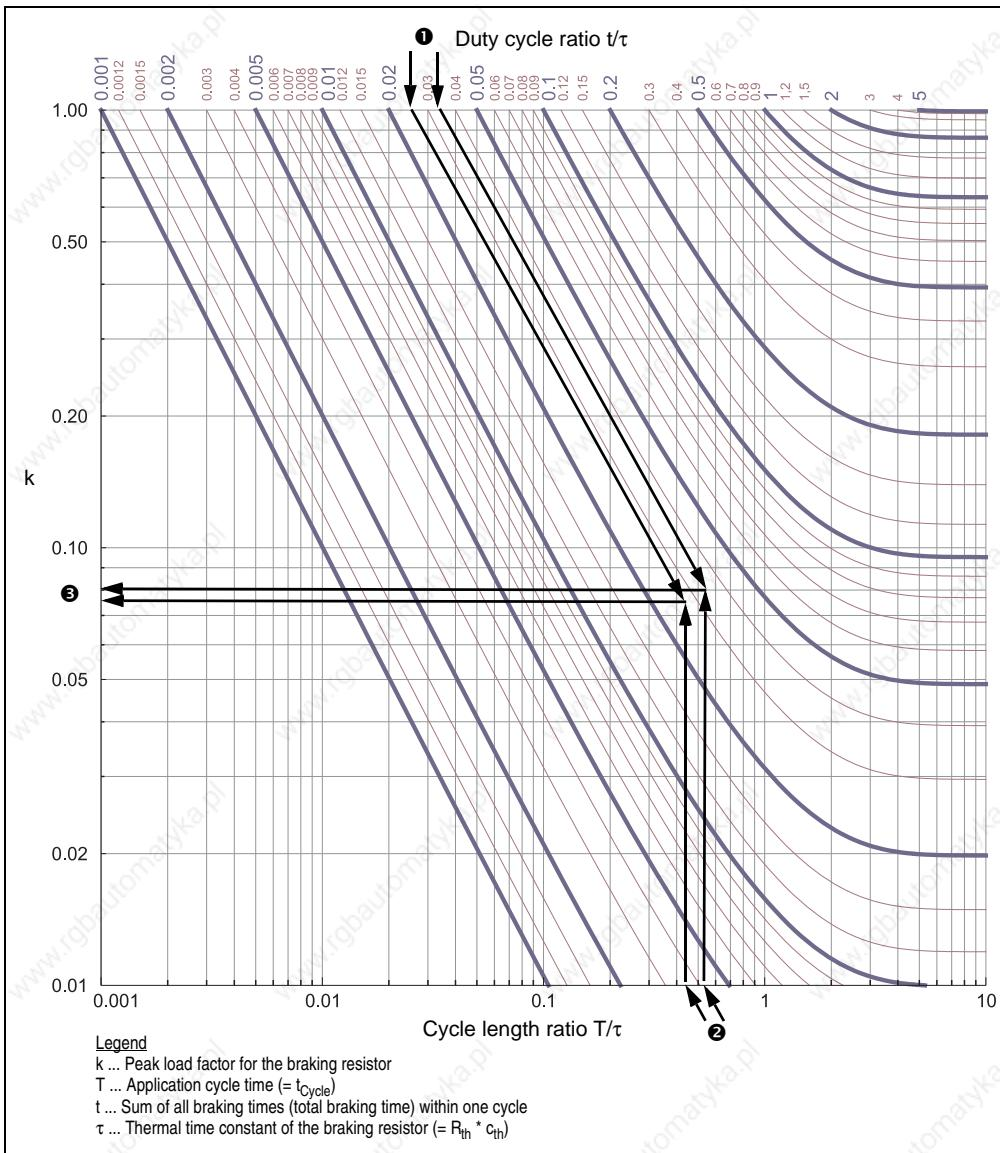

Figure 93: Determining the peak load factor  $k$
### ③ Reading the peak load factor k based on the values from ① and ② in figure 93 "Determining the peak load factor K"